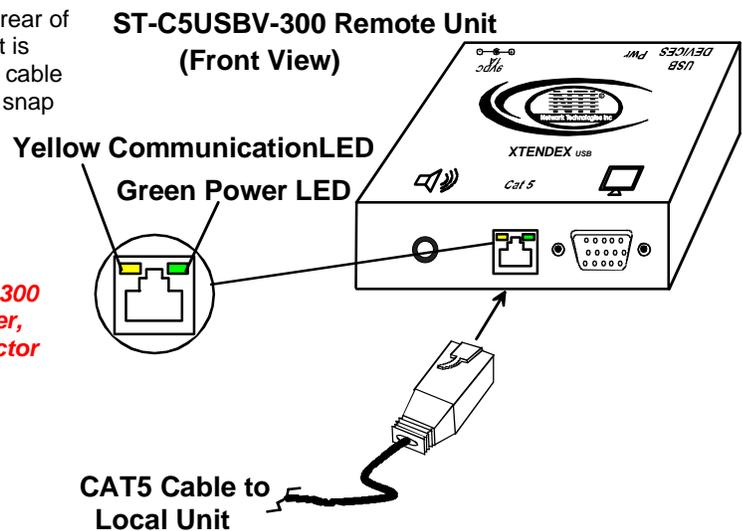

Figure 8- Connect CAT5 cable to the Remote Unit
Connect the CAT5 cable to the "CAT5" port on the rear of the Remote Unit (see Fig. 8). (If an RJ45 wall outlet is being used, connect the other end of the extension cable to it.) When properly inserted the cable end should snap into place.
4. Turn ON the CPU and monitor(s). The CPU and monitor(s) should each react as if they were directly connected to each other. The yellow communication LEDs on the Remote and Local Units (see Fig. 8) should blink indicating there is proper communication between them.